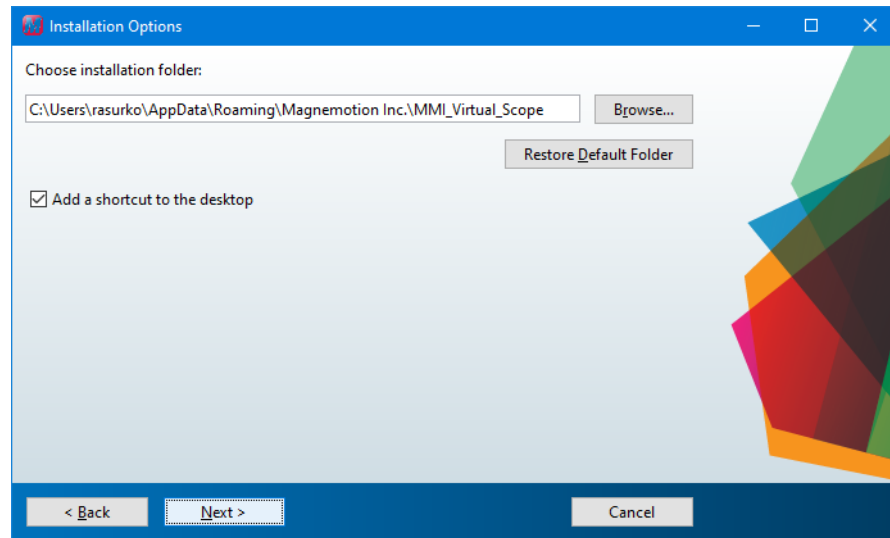

Figure 2-2: MagneMotion Virtual Scope Utility Installation Setup
*The MagneMotion Virtual Scope utility setup wizard prompts for an installation location as shown in Figure 2-2.*